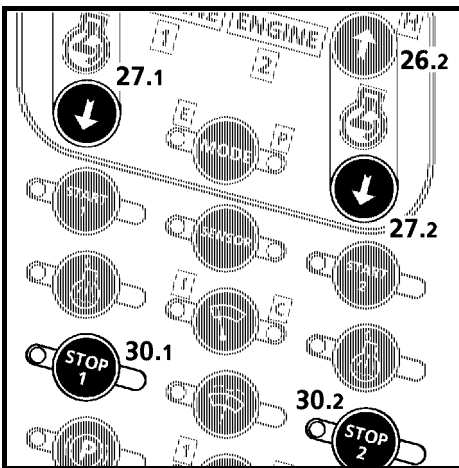

Fig. 14
Then push the engine STOP button (Fig. 14, pos. 30) to turn the engine off and remove the key.